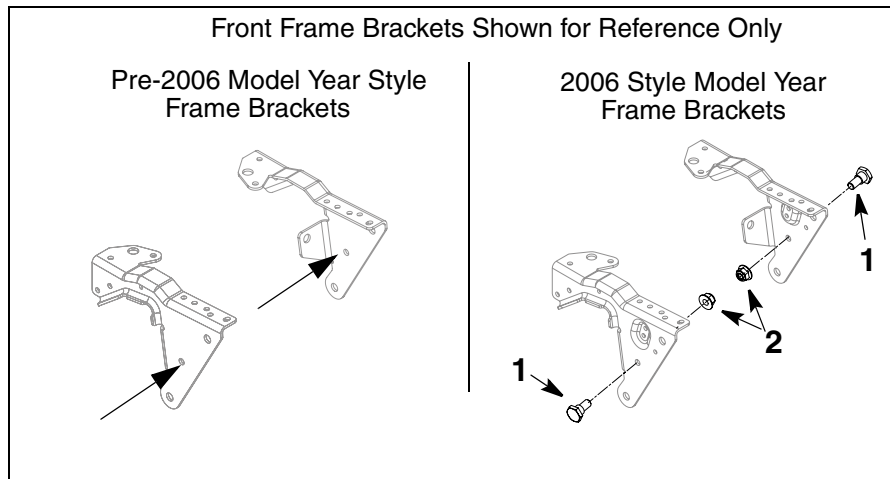

FIGURE 1
(See Figure 1)
- Using a 3/4" socket and ratchet and a 9/16" open end wrench, install a Shoulder Screw, Item 1, and Flange Lock Nut, Item 2, onto each frame bracket as shown in the location defined in Figure 1. Tighten securely.